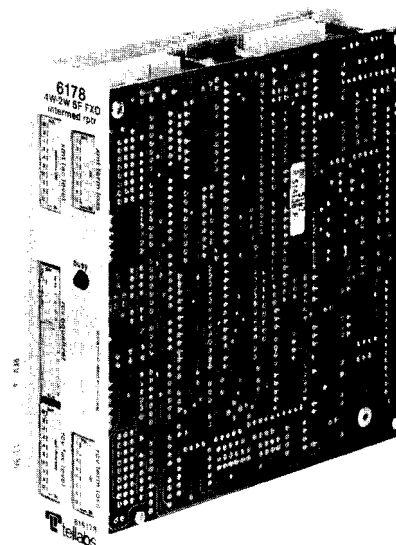

figure 1. 6178 4Wire-to-2Wire SF-to-FXO Intermediate Repeater module
1.01 The 6178 4Wire-to-2Wire SF-to-FXO Intermediate Repeater module (figure 1) provides both active transmission interface and bidirectional signaling conversion between a 4wire metallic facility that uses 2600Hz single-frequency (SF) signaling and a 2wire metallic link (to a CO switch or PBX) that uses foreign-exchange office-end (FXO) loop signaling. This type of loop signaling is normally associated with the office (switching-equipment) end of both foreign-exchange (FX) and off-premises-station (OPS) circuits. The 6178 is designed in accordance with the specifications given in AT&T Technical Reference PUB 43001: Functional Criteria for Voice-Frequency Terminating Equipment/Metallic Facilities/Central Office.